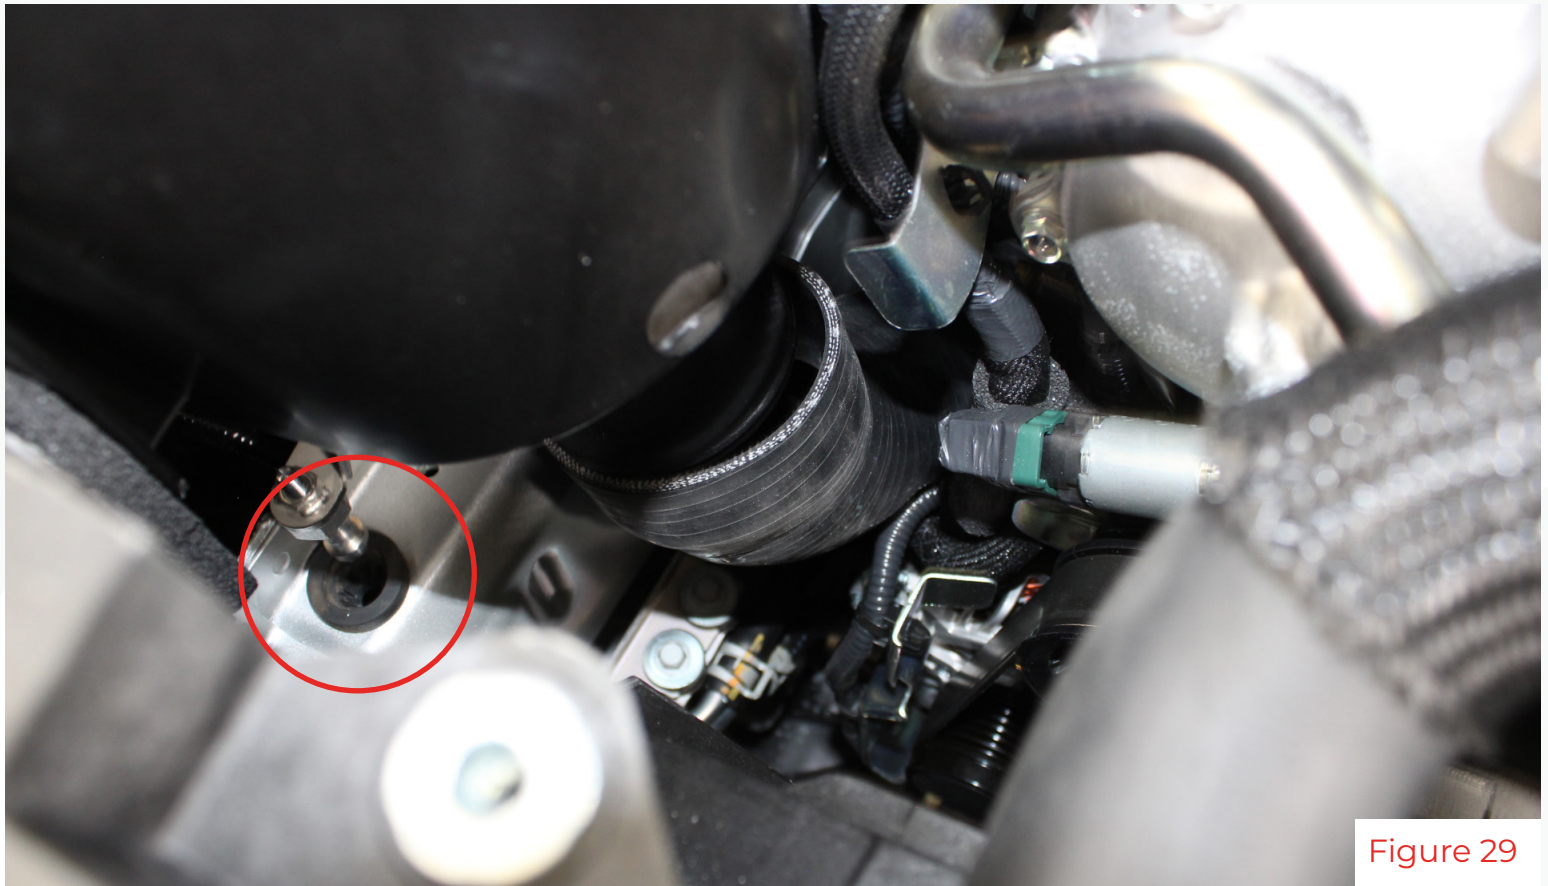

Figure 29
15. Position the passenger airbox over the silicone and align the stanchion over the grommet. Clock the silicone until the airbox and silicone are properly aligned. Tighten the clamp on the turbo inlet(fig 29).